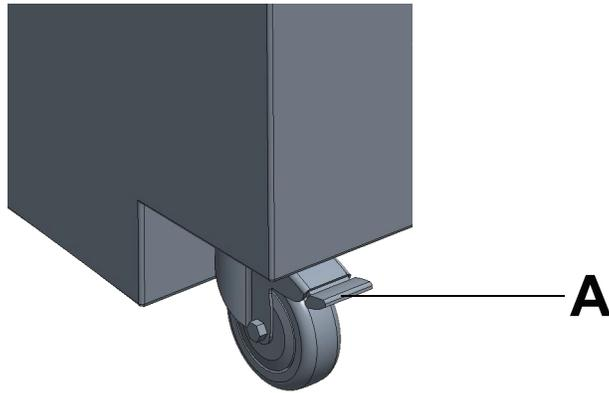

Figure 2 – Caster lock
To lock the casters, use your foot to push the caster lock (A) down (Figure 2).